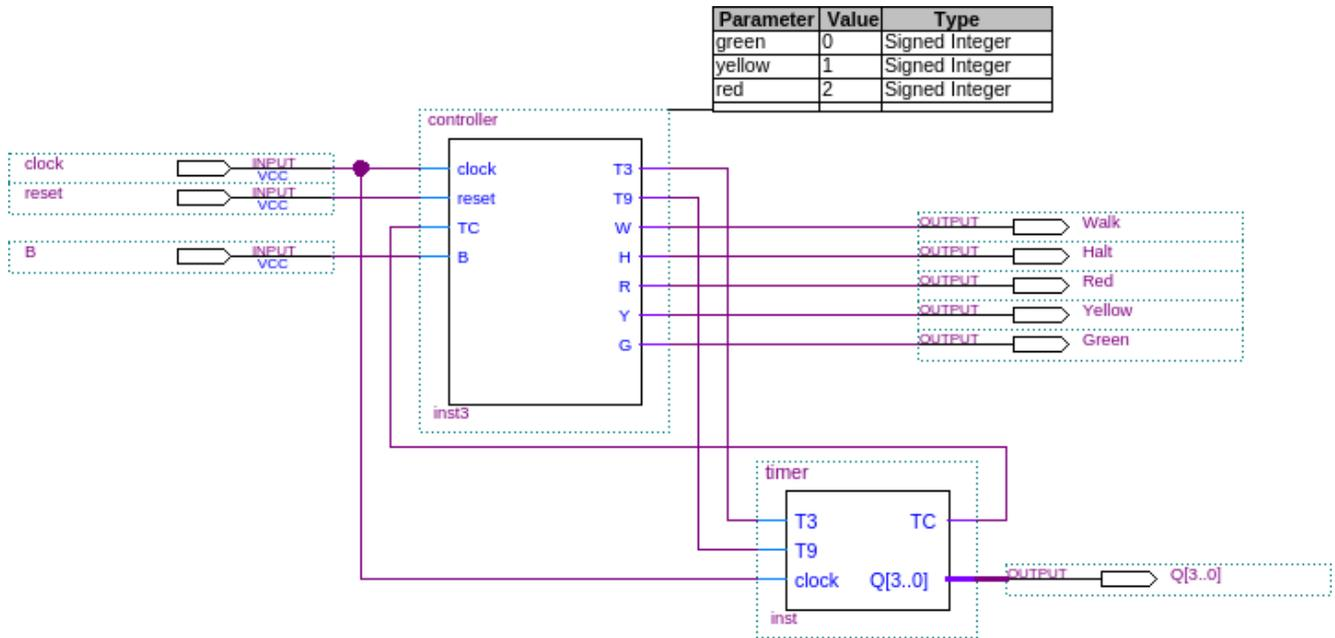

Figure 23. Top level zebra crossing circuit using full speed clock. The simulation is Figure 24.
1. In a new block diagram file, insert the timer and controller symbols and connect according to Figure 23.